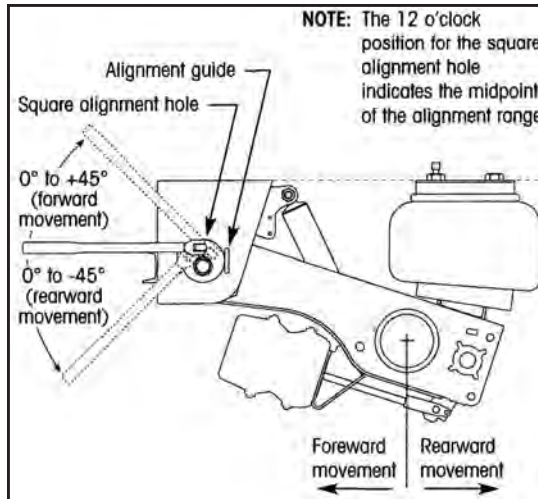
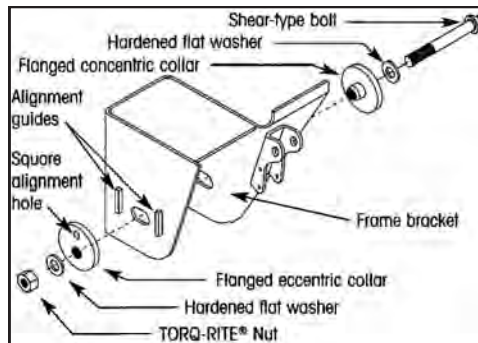

Figure 18. Quick-Align Operation
Figure 19. Pivot Connection Assembly
10. The **QUIK-ALIGN®** style pivot connection uses two flanged collars inserted into slots on each side of the frame bracket (Figure 19). The eccentric collar on the outboard side of the frame bracket is used to adjust the position of the axle during an alignment. The alignment guides on the side of the frame bracket limit the eccentric collar to rotational movement in the frame bracket slot. Rotating the eccentric collar clockwise causes the axle to move forward. Rotating the eccentric collar counterclockwise causes the axle to move rearward (Figure 18). The maximum range of adjustment is ± 45 degrees from the 12 o'clock position.
- Using an E20 Torx socket, tighten the shear-type bolt axle pivot connection until the Torx head shears off. This ensures the proper torque of 550 ft. lbs. (± 45 ft. lbs.). Pivot bolts must be replaced when trailer is aligned. **DO NOT** attempt to reuse old pivot bolts. Assembly of pivot connection shown below (Figure 19).